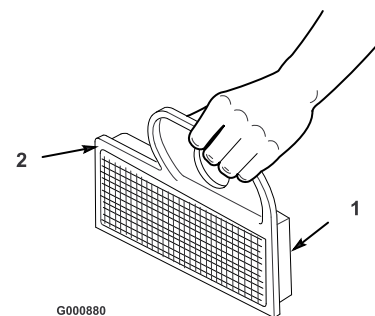

Figure 33
- A. Lightly tap the element on a flat surface to remove dust and dirt (Figure 33).